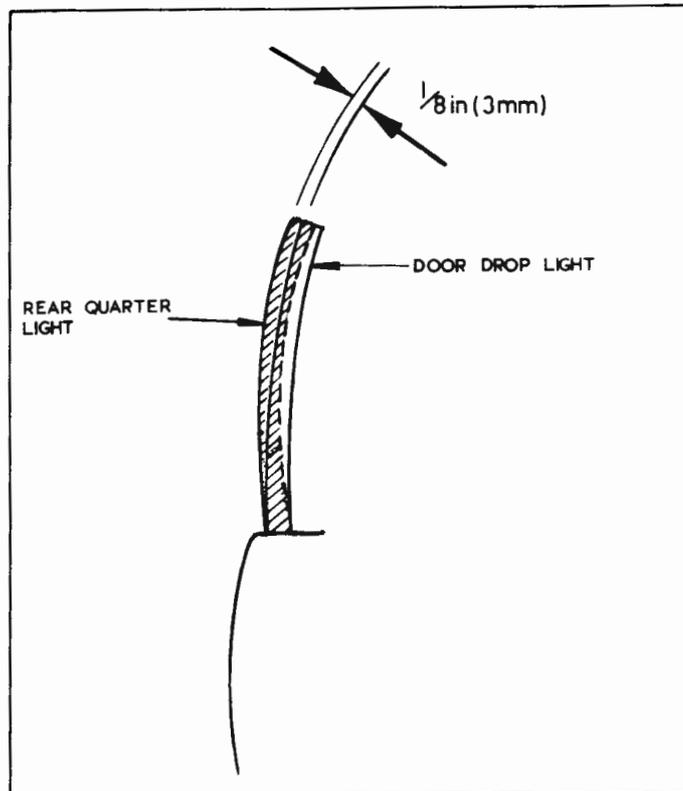

Fig. P3B. View along axis of door droplight and rear quarter light.
2. When viewed from above, the outer edge of the quarter light should be $\frac{1}{8}$ (3mm) outside the door droplight outer edge. The measurement is at the top only. The lower outer edges should be in the same plane. See fig. P3B for details.